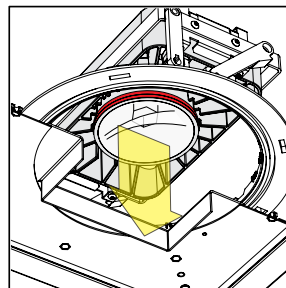

fig. 17
- To set optic at the low regress position pull optic directly down. Light engine will magnetically lock into place (see fig. 17).